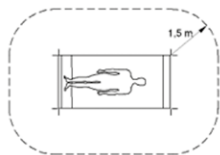

Fig. 2
- ⚠** Change the batteries outside of the patient environment (at least 1.5 metres from the patient or patient support pursuant to IEC 60601-1, see Fig. 2). Please let the device cool down before changing the battery.